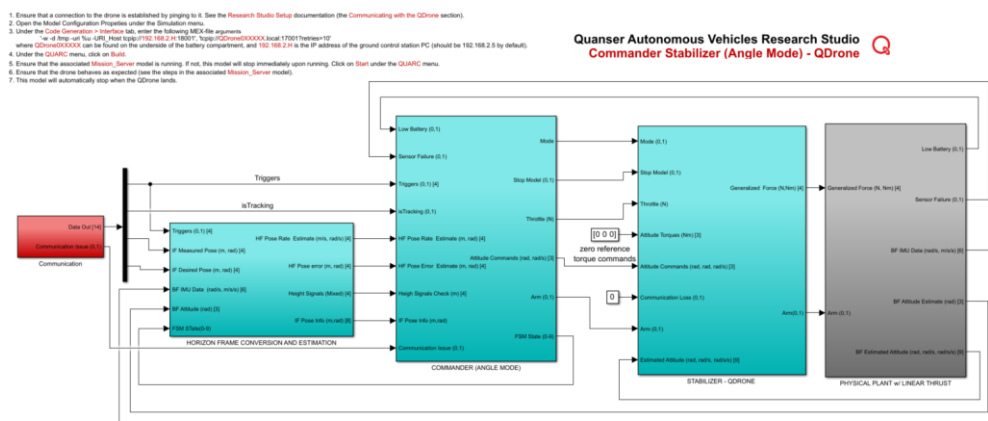

Figure 2. Commander Stabilizer Model
3. From the same folder containing this file, open the folder QDrone Hover Test, and open Commander_Stabilizer_QDrone.mdl (Figure 2).